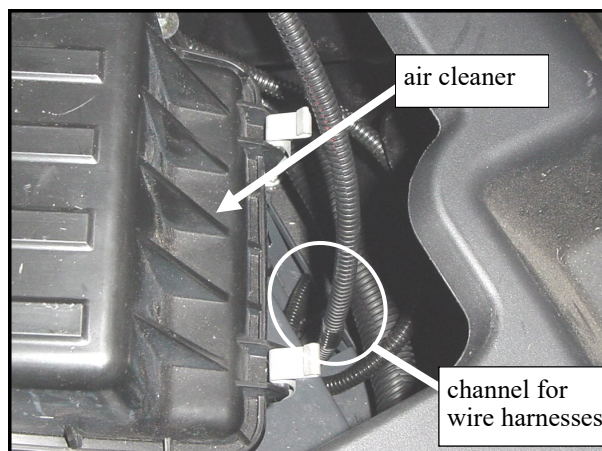

Fig. 3.7b (view from passenger's side) (RTV 400 shown)
3.7b Per fig. 3.7b, begin by feeding this new harness alongside the original equipment harnesses in the channel forward of the air cleaner under the seat as shown.